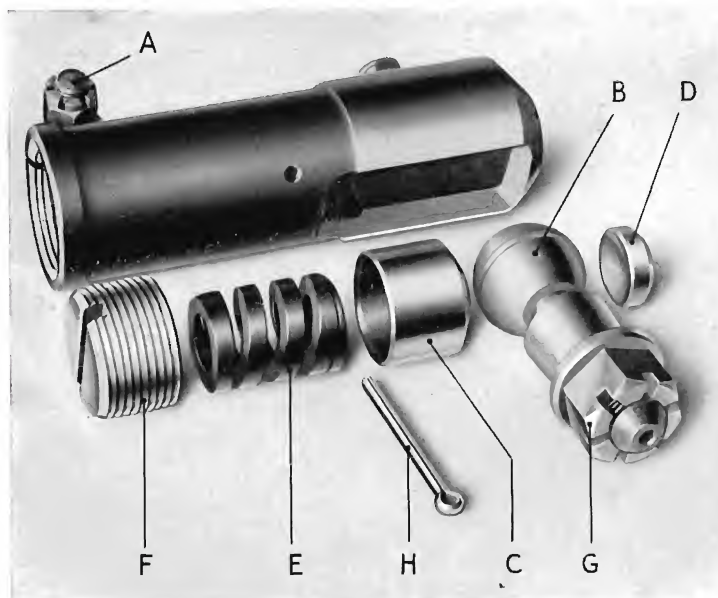

Fig. 3.
The steering drag link and track rod ends are one piece forgings screwed left and right on the rods for adjustment and locked with a nickel steel bolt (A), Fig. 3. These bolts must be kept tight and must not be replaced with mild steel bolts. Allowing the bolts to remain loose may result in serious damage to the adjusting threads.